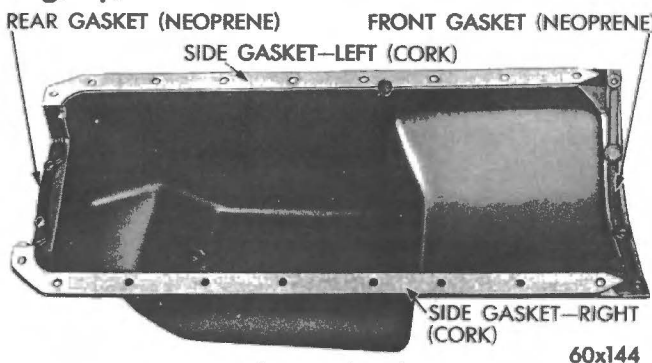

Fig. 1 - Oil pan and gaskets.
(1) Clean oil pan in solvent and wipe dry with a clean cloth.
(2) Scrape all gasket material from the mounting surface of pan and crankcase (see Fig. 1).